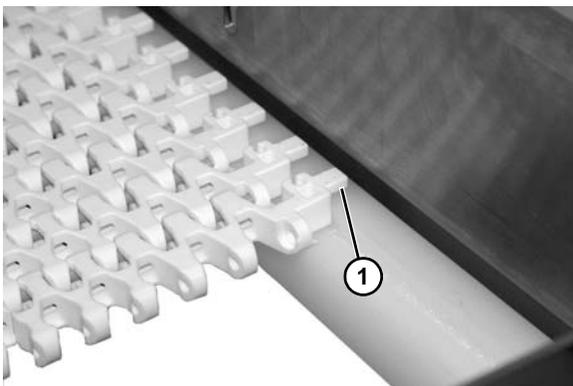

Figure 26
6. When feeding belt through straight section, be sure belt tabs ride on top lip of belt return (**Figure 26, item 1**).